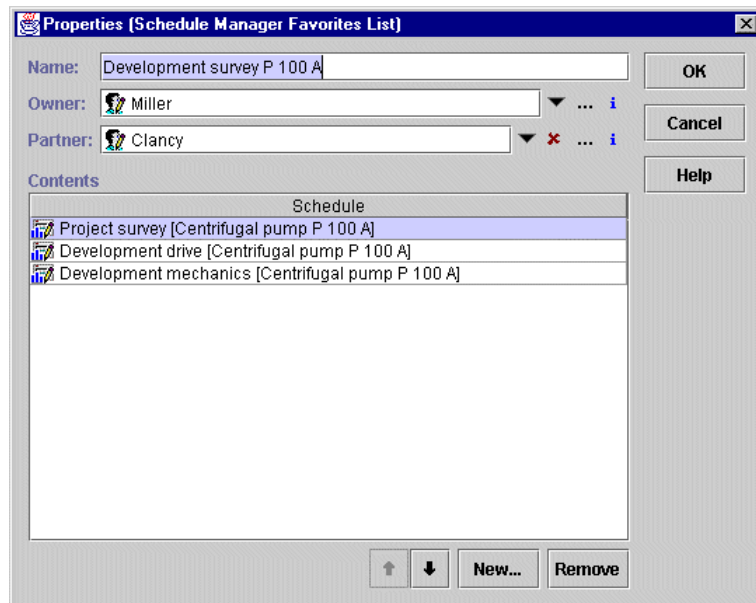

Figure 17: Adding further schedules to a favorites list
3. Highlight the favorites list to be modified and choose the *Properties* button. You can make the following changes in the *Properties* dialog box (Figure 17):